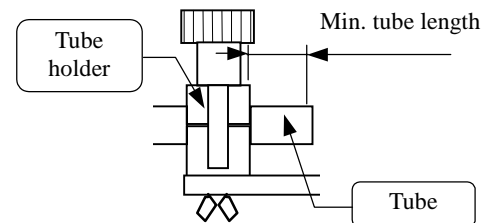

Figure 17. Minimum tube length
- Open the clamp and install the tube in the tube holder so that the minimum tube length is ensured (Table 8 and Figure 17).